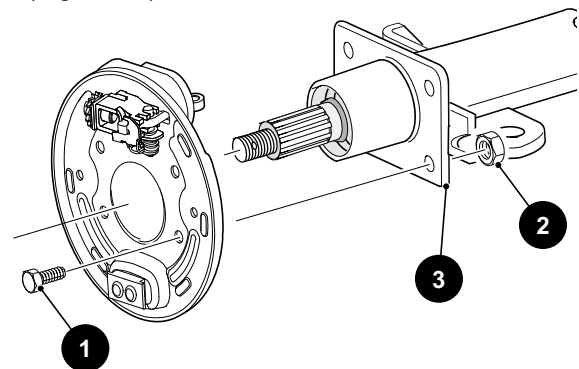

Figure 13 Backing Plate Removal and Installation
Remove the four bolts (1) and lock nuts (2) securing the wheel brake backing plate to the flange (3) on the axle tube (Figure 13).